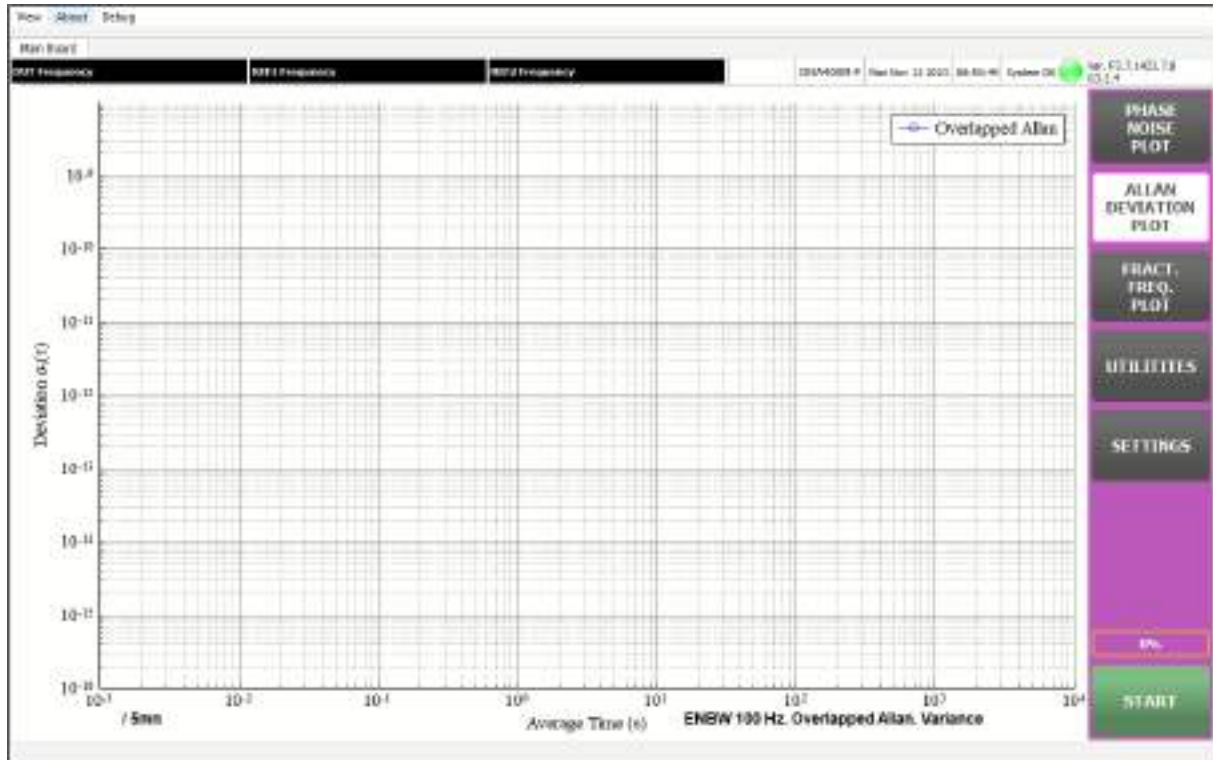

Figure 14 – Frequency Stability analysis display
- ② DUT's frequency and signal level (in dBm & dBFS).
- ③ Internal reference n°1 frequency and signal level (in dBm & dBFS).
- ④ Internal reference n°2 frequency and signal level (in dBm & dBFS).
- ⑤ DNA Model number.
- ⑥ System date and time.
- ⑦ Useful user messages displayed in this field. System initialization and functioning status. It gives user's information concerning events such as input signal saturation, input signal lost, system temperature stability, system overheating event and high noise level detection.
- ⑧ System software and firmware version.
- ⑨ Phase noise, frequency stability and the real-time fractional frequency (path 1 and path 2) are displayed here.
- ⑩ Graph legend.
- ⑪ Phase Noise plot button. When this button is active, the phase noise density plot is displayed on the main interface ⑨.
- ⑫ Allan Deviation plot button. When this button is active, the frequency stability curve is displayed on the main interface ⑨. It is noted that the phase noise plot and the Allan deviation plot is auto exclusive. Only one plot can be displayed at a time (Figure 14 – Frequency Stability analysis display).